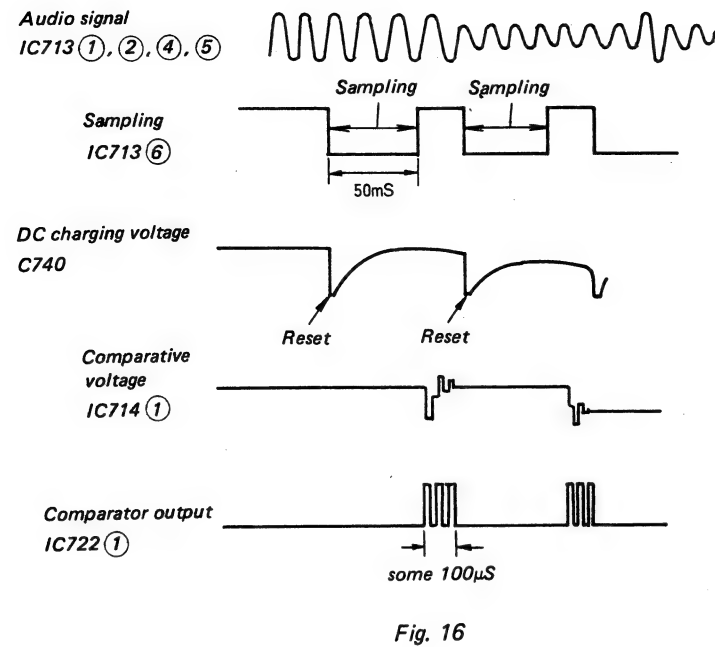

Fig. 16
As in Fig. 16, among the signals applied to IC713 output, the source signal or tape signal L or R is selected by IC704 (micon) and when IC713 pin ⑥ is low, outputs from pin ③ .